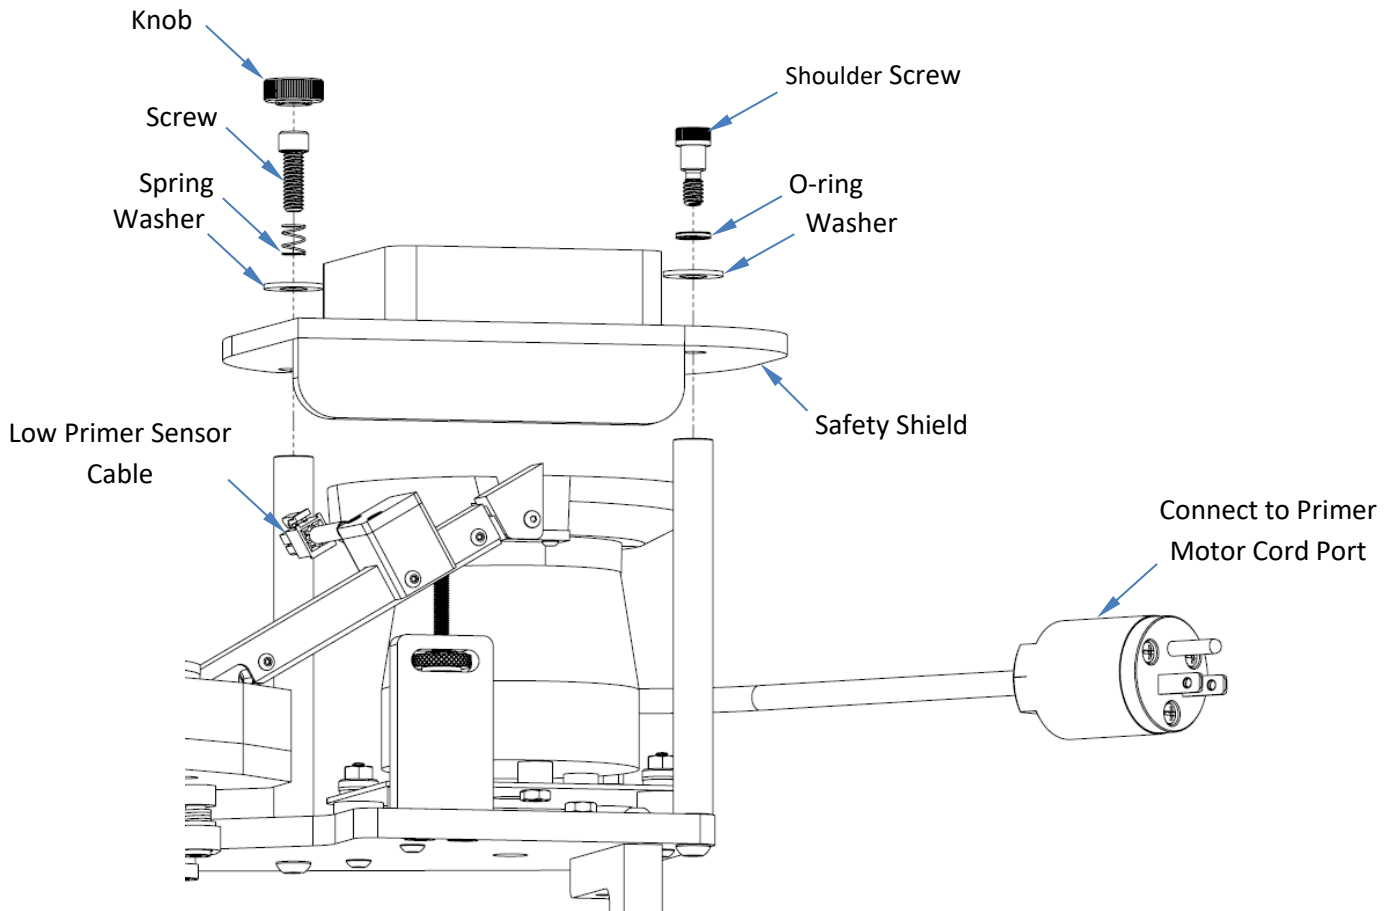

Figure 7: Safety Shield Installation
- Connect the **Primer Call Sensor Cable** to the **Low Primer Sensor Cable** installed on the **Revolution Main unit** (See Figure 7.) The **Controller** has an **On/Off Switch** and a **Dial** that controls the vibration frequency.
Install Primer Bowl Shield Assembly onto Revolution Main Unit. Attach using hardware per Figure 7.